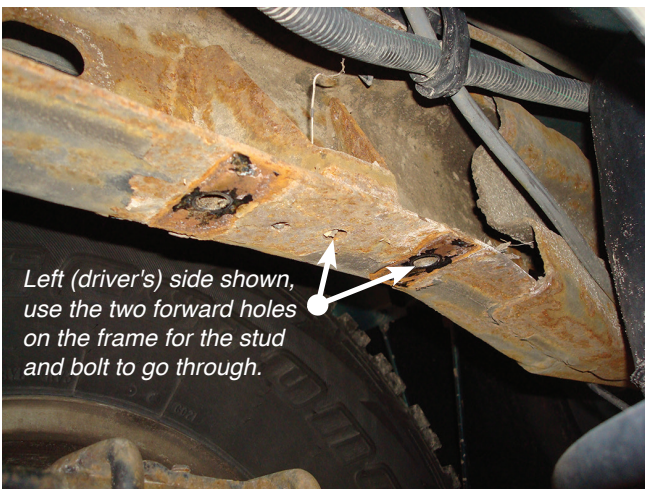

Fig. 12
- Raise the axle up while aligning the bolt and stud (on the upper bracket) so that they insert into the two front holes in the frame (Fig. 12).